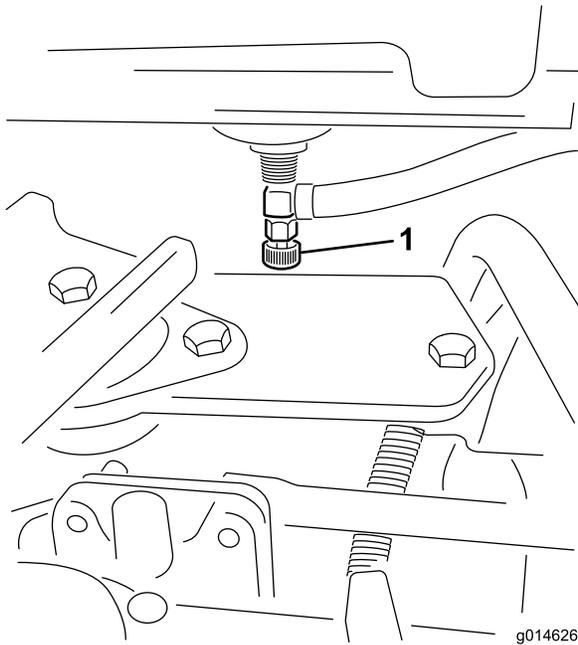

Figure 47
1. Close the fuel shut off valve (Figure 47) below the fuel tank.